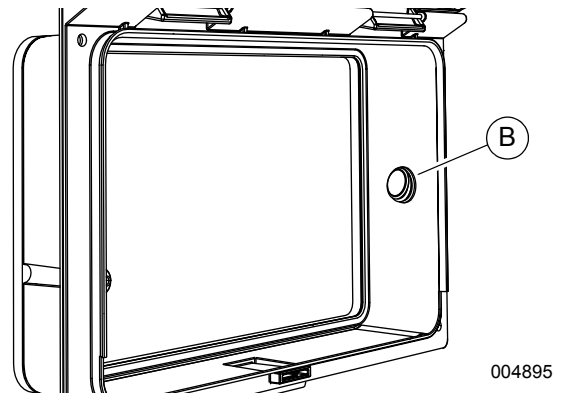

Figure 17 - Customer Access Cover Switch Installation
6. See **Figure 17**. Insert rocker switch (B) into hole from inboard side of controller access cover. Rocker switch terminals should be on the insulated side of the rear enclosure panel.